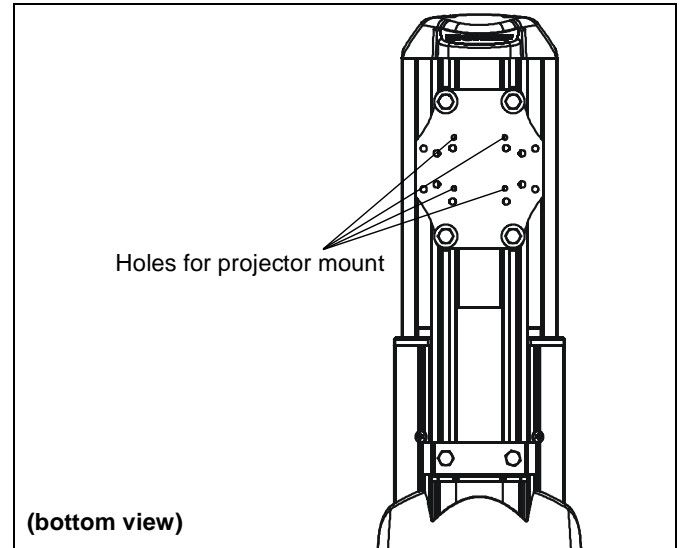

Figure 14
1. Line up mounting holes on projector mount (E) with corresponding holes on mounting plate. (See Figure 14)